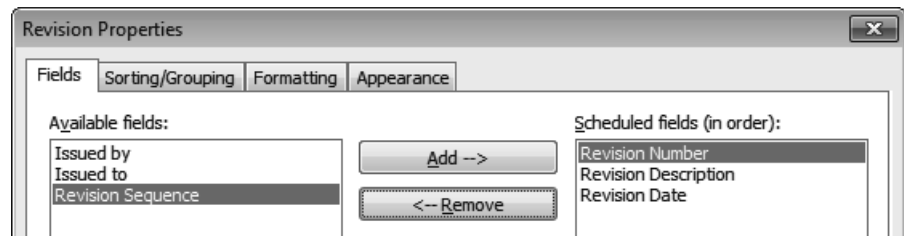

Figure 1–42
2. In the Revision Properties dialog box, *Fields* tab, set up the fields as shown in Figure 1–42.